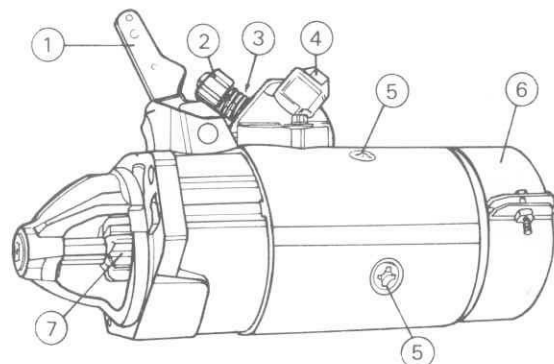

FIG 11 : 3 The starter motor showing external features
- 2 Remove the two Woodruff keys 5 and 32 from armature shaft (see **FIG 11 : 2**).
Key to Fig 11 : 3 1 Shifter lever 2 Moveable contact